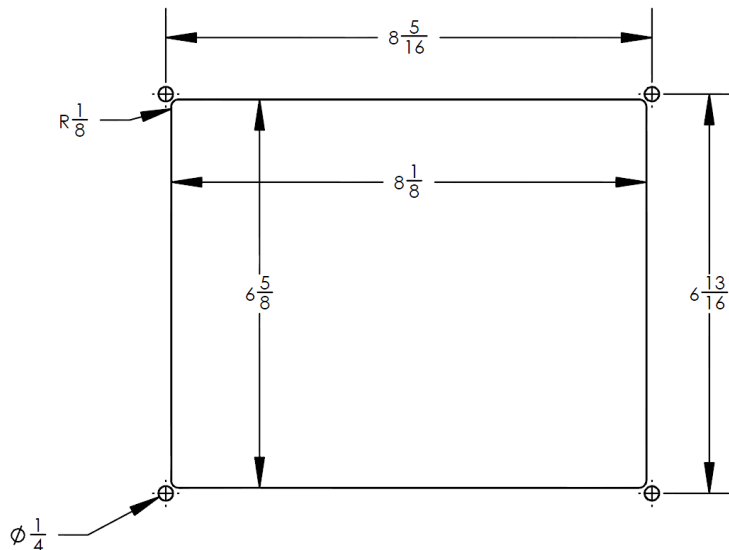

Figure 1. Cutout Dimensions for Panel Mounting
- Cut the panel and drill using the dimensions shown in Figure 1.
- Using the gasket and four (4) 10-32 nylon locking nuts, secure the EIM to the cutout location.